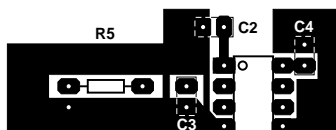

Figure 26. Top Layer of Printed Circuit Board Layout.
3. Exact offset value is dependent on layout of external bypass capacitors. The offset value in the data sheet corresponds to HP's recommended layout (see Figures 26 and 27).
In addition to affecting offset, the layout of the PC board can also affect the common mode rejection (CMR) performance of the isolation amplifier, due primarily to stray capacitive coupling between the input and the output circuits. To obtain optimal CMR performance, the layout of the printed circuit board (PCB) should minimize any stray coupling by maintaining the maximum possible distance between the input and output sides of the circuit and ensuring that any ground plane on the PCB does not pass directly below or extend much wider than the HCPL-7820/7825. Using surface-mount components can help achieve many of the PCB objectives discussed in the preceding paragraphs. An example through-hole PCB layout illustrating some of the more important layout recommendations is shown in Figures 26 and 27. See the Application Note *Designing with Hewlett-Packard Isolation Amplifiers* for more information on PCB layout considerations.